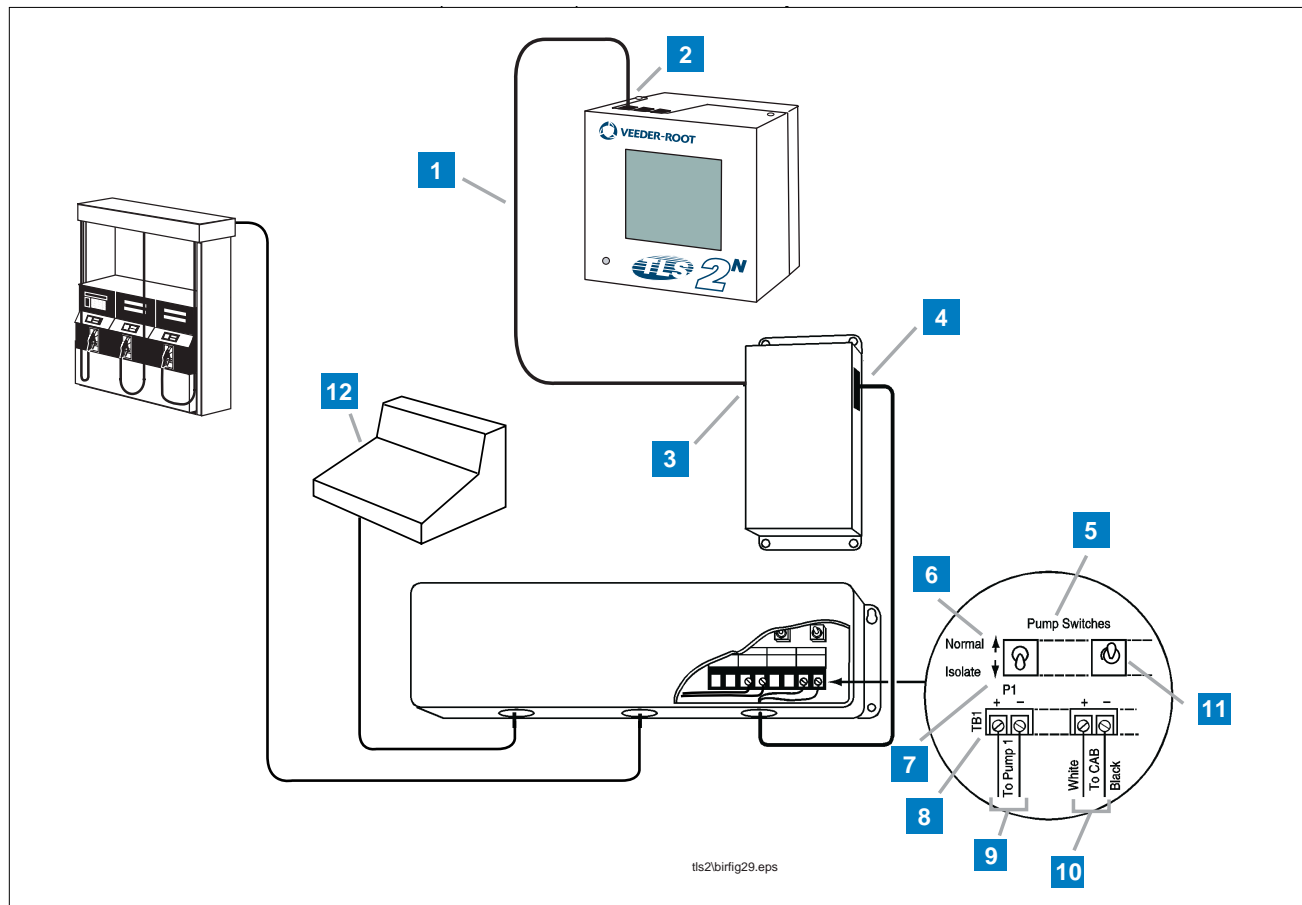

Figure 12. Transac Series Installation
2. Connect cabling between the TLS-2N, CAB and POS as shown in Figure 12.